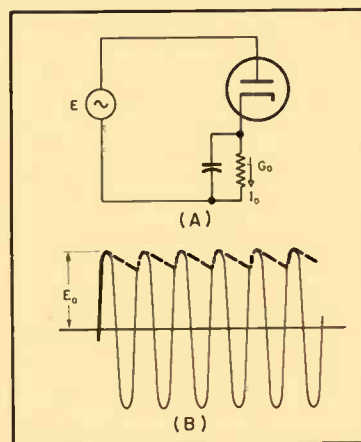
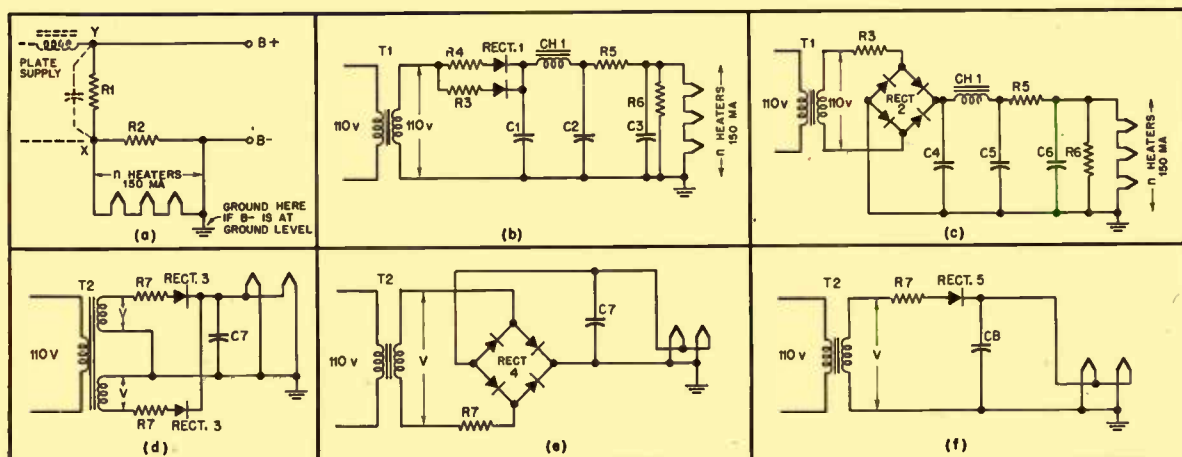

Fig. 2. (A) Simplified diode detector circuit and (B), the resultant current through load resistor when rectifying an unmodulated carrier signal.
Fig. 1. Typical circuits for supply of direct current for heaters of low-level amplifier stages.
In the operation of the simplest diode rectifier circuit, an ideal diode is assumed and the signal is unmodulated with an input current impedance of zero. In a circuit such as shown at (A) of Fig. 2, the diode current has alternating components of fundamental and harmonic frequencies which are bypassed by the load capacitor, and a rectified component, I_o which flows through a load conductance G_o placed across the capacitor. The rectified load voltage E_o is free of alternating components since they are bypassed. In operation, each positive peak of the input voltage charges the capacitor to a voltage E_o equal to the carrier peak voltage. During each negative half cycle, a small part of this charge leaks off through G_o but is restored at the next positive peak of input voltage, resulting in a waveform as shown in Fig. 2. The diode current
Basic circuits for d.c. heater supply are shown in Fig. 1. The plate-supply connection is diagrammed at (A). With a string of n 12-volt heaters (150 ma) the voltage drop from X to $B-$ will be $12.6n$, and the resistors R_1 and R_2 are selected to provide this condition. If the normal plate current drain is less than 150 ma, $R_2 = 0$, and R_1 is adjusted to give the 150-ma current through the heater string. If the normal plate current is over 150 ma, R_1 is adjusted to draw a few ma (as a safety bleeder across the plate supply filter) and R_2 is adjusted to by-pass the excess current. Adjustment in either case may be made with a milliammeter in the heater loop or with a voltmeter between X and $B-$. The available plate-supply voltage between $B-$ and $B+$ will be the supply voltage across X Y less the drop between X and $B-$ in the heater loop.
Figure 1 (B) is the wiring diagram of a separate heater-supply unit shown in Fig. 2, built by the author as a stand-by and bench unit. A 110/110-volt isolation transformer supplies a half-wave selenium rectifier followed by a capacitor-input filter, a load-adjusting resistor, and a safety bleeder. The unit will supply one to six 12-volt, 150-ma heaters—the load-adjusting resistor being set to the